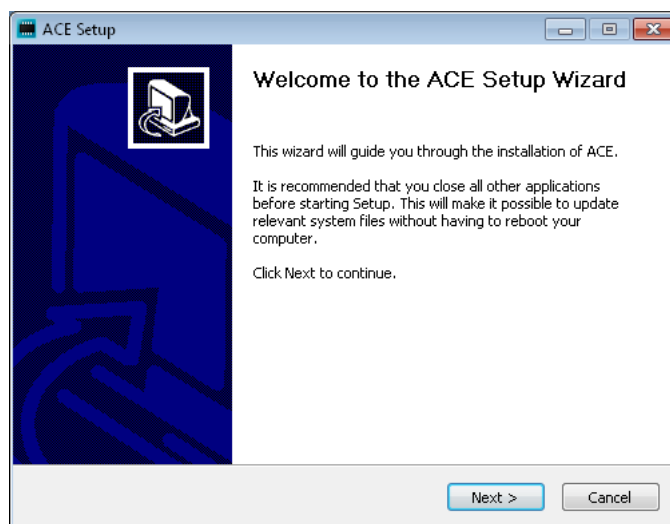

Figure 2.1: ACE Setup Wizard Step 1
Step 1: Close all open instances of ACE before clicking "Next" to proceed, Figure 2.1